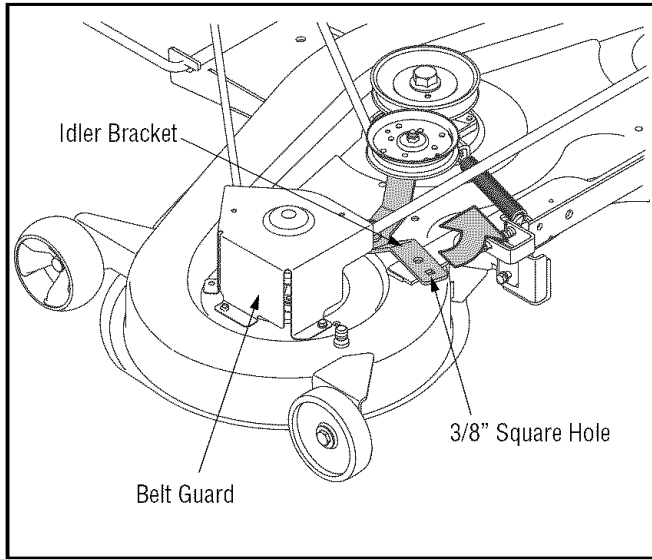

Figure 21
- Insert a 3/8"-drive ratchet wrench (set to *loosen*) into the square hole found in the idler bracket on the left side of the deck's surface. See Figure 21.